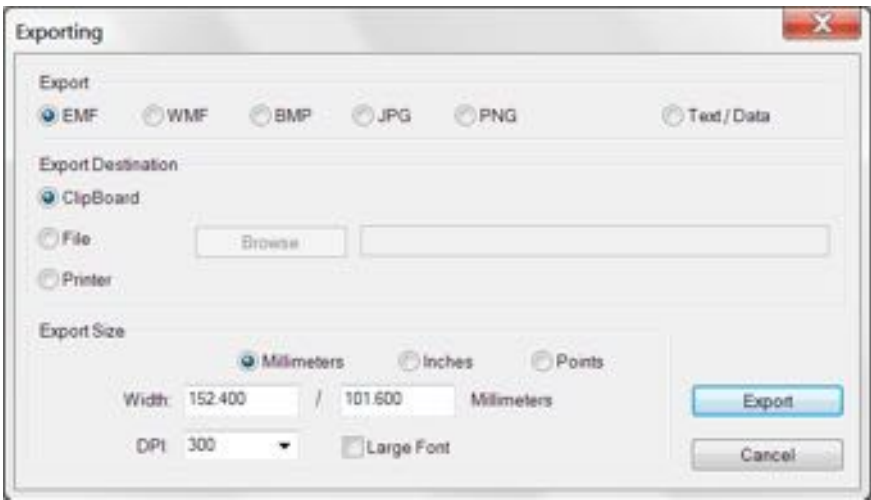

Figure 5-61: Exporting Dialog Box
- 2. In the **Exporting** dialog box (see Figure 5-61), select the export options and click **Export**.